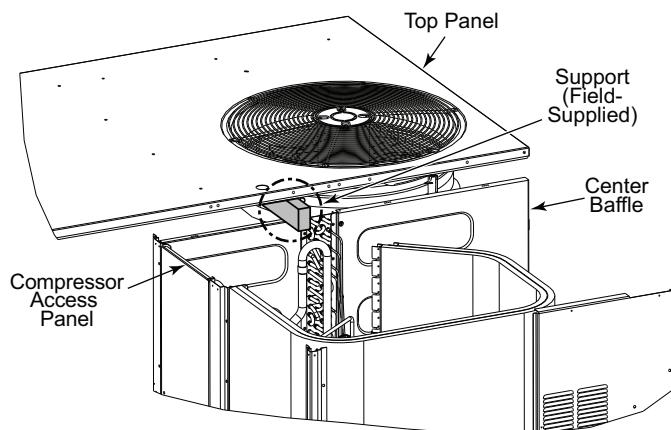

Fig. 16 – Top Panel Position
3. Lift and rotate the top panel at the condenser fan end and rotate the panel 90 degrees. Support the top panel so it remains level while resting on the condenser fan as shown in Fig. 16.